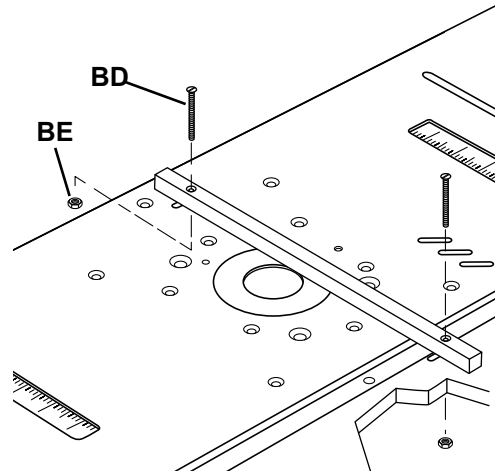

Figure 45
3. Secure each end of dovetail/box joint bar by inserting a pan head screw (BD) through hole and securing with a hex nut (BE). See Figure 45.